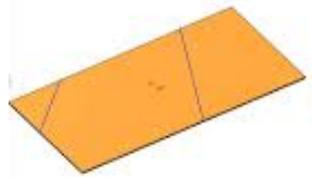

Figure Sheet-3: a marking of sheet metal
1. As in figure Sheet-3, mark a bending place on a sheet metal.